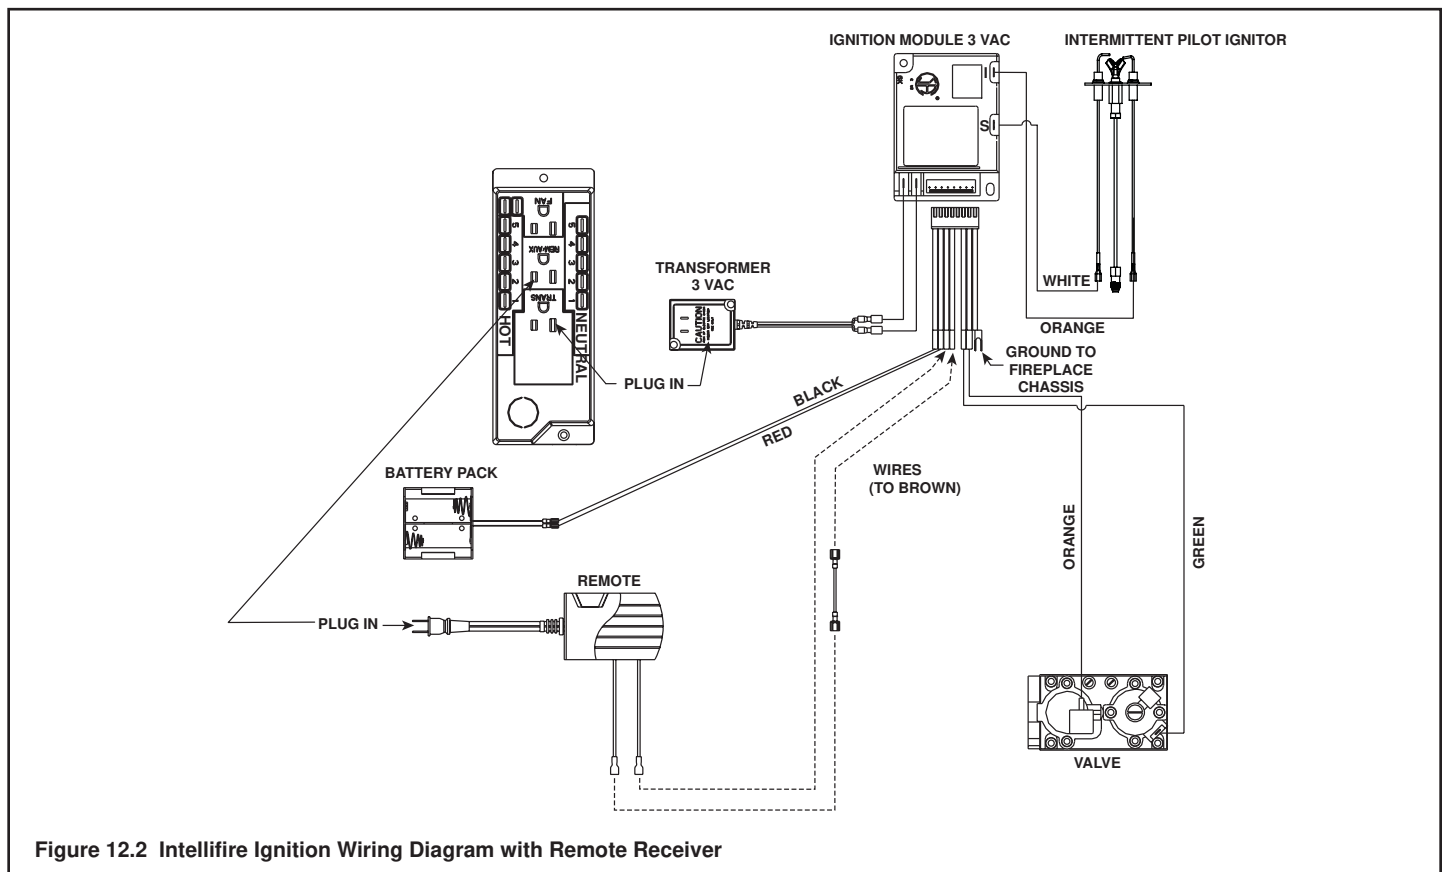

Figure 12.2 Intellifire Ignition Wiring Diagram with Remote Receiver
- Refer to Figure 12.2, Intellifire Pilot Ignition (IPI) Wiring Diagram.